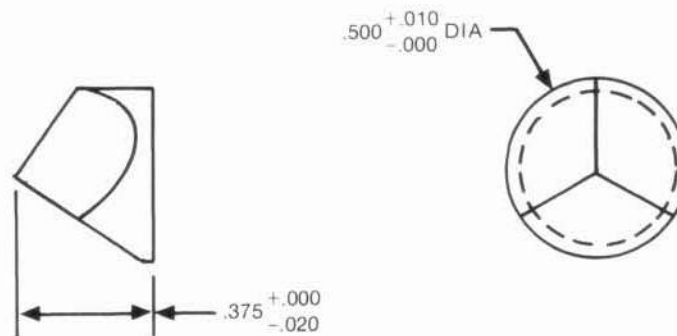

Figure 8-13. HP Cube Corner (HP P/N 1000-0348), Dimensions
**Dimensions:** See Figure 8-13.